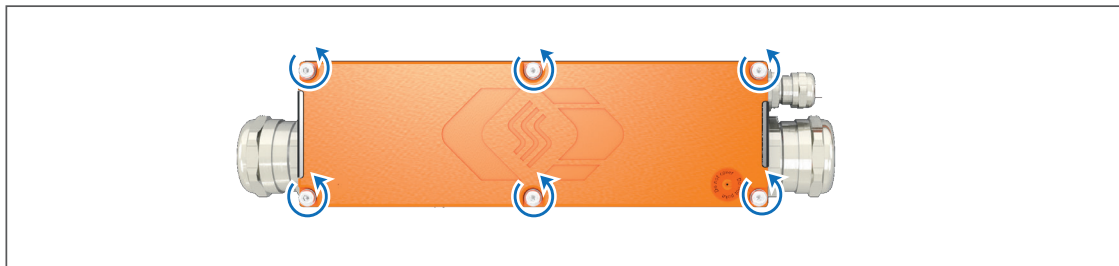
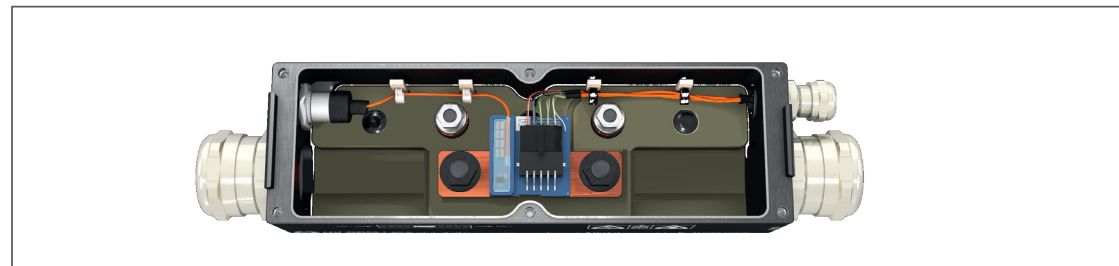

Fig. 5-1: HV SBM_I evo, lid mounted
Fig. 5-2: HV SBM_I evo, lid removed from the housing
Fig. 5-1 and Fig. 5-2 show an HV SBM_I evo with and without lid. The procedure described in this section applies to all HV SBM(L) evo.